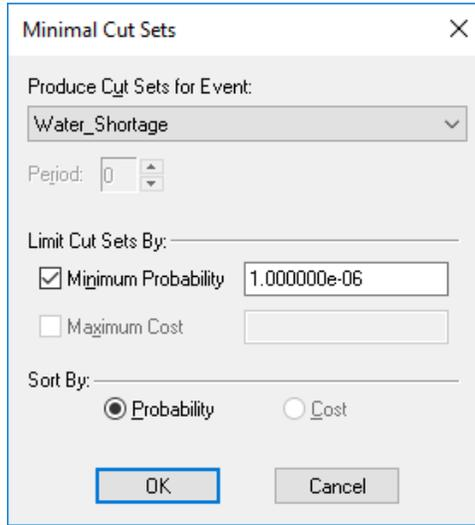

Figure 5-1. Minimal Cut Sets Dialog
- ⇒ Select Fault Tree | Analysis | Minimal Cut Sets. The Minimal Cut Sets dialog will open as shown in Figure 5-1.
By default, DPL has set the Minimum Probability to "1.000000e-06" as shown in Figure 5-1. This indicates that you will only be shown those cut sets whose probability of occurrence is at least 1.0e-6. You can enter any number between zero and one in this box.